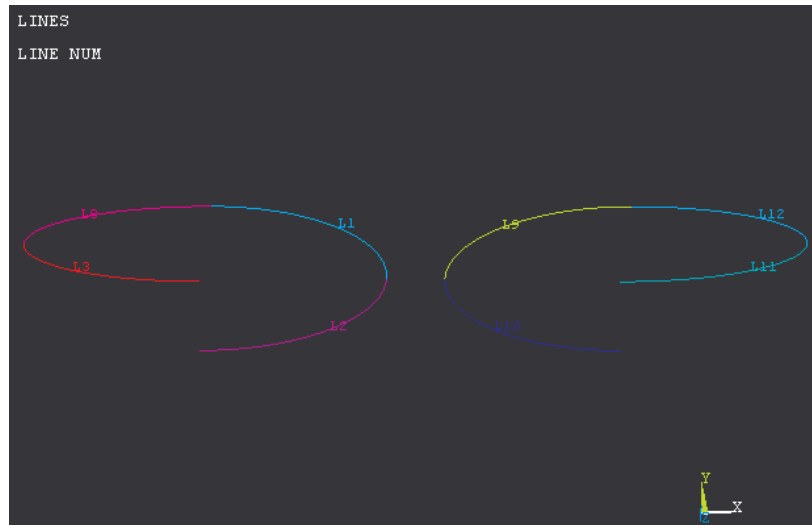

Figure 2 Left and right hand helix.
- This leaves a left and right hand helix. See Figure 2